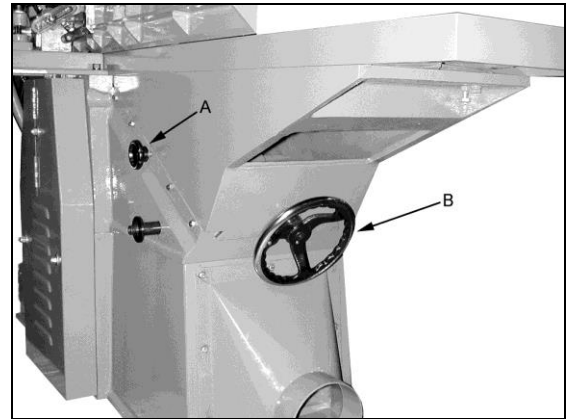

Figure 11
3. At this point it is time to 'dial in' the outfeed table to the knife. To do this, slowly turn up or down the table with the table height adjusting wheel (B, Figure 11) until there is no light between the table and the bottom of the straight edge.
4. Once set, lock into place with the height lock knob (A, Figure 11).